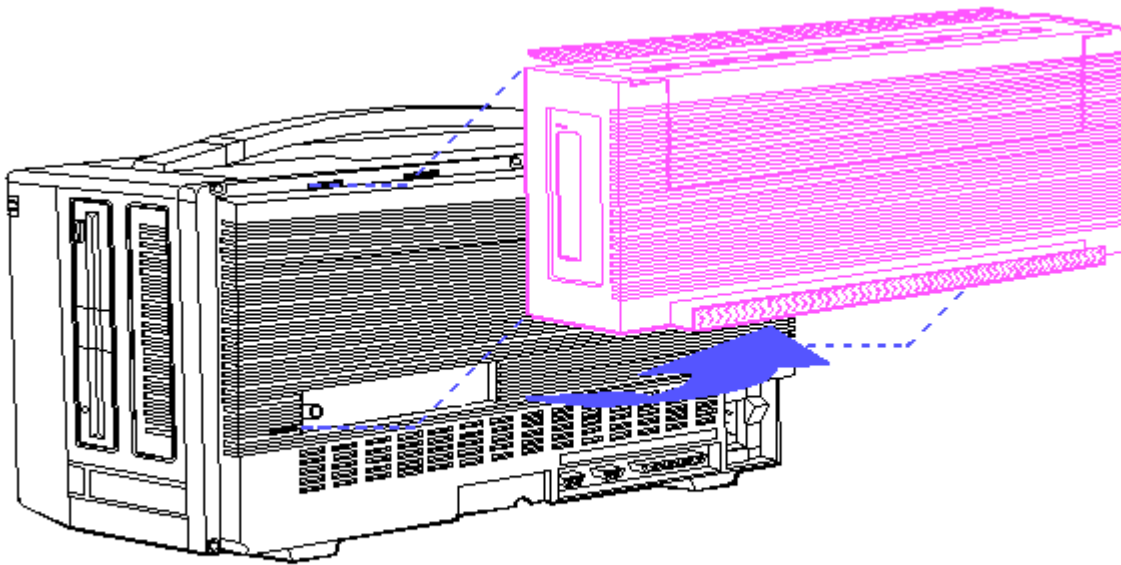

Figure 8-102. Removing the Expansion Unit
6. Pull the expansion unit up and away from the computer (Figure 8-102).